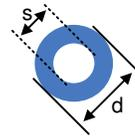

图 11-2. PowerPAD™ Layout Recommendation
- The thermal pad should be tied to the PCB ground plane with a minimum of 25 vias. See 图 11-2 for an example.